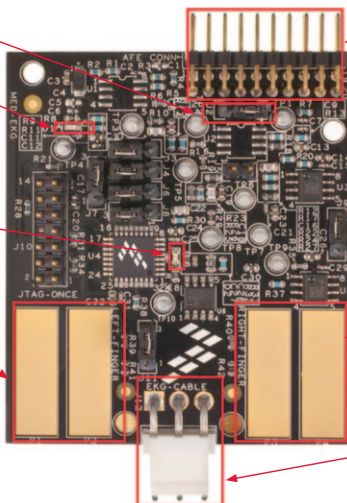

Figure 1. MED-EKG module. Please refer to schematic or MED-EKG user manual for details.
3. Set the default jumpers for MED-EKG as shown in Step 2 of the QSG or Figure 1 in this lab. Pay attention to the J2 setting; there are two silkscreens labeled as pin 1 around J2. Set J2 as indicated in Figure 1 MED-EKG module in this lab.
- Repeat steps 29 to 36. You will notice the EKG amplitude will be much smaller. This is because you are no longer reading the results amplified by the DSC. You will also notice the red LED mentioned under the “Get to Know the MED-EKG” section in Figure 1 will continue to blink.